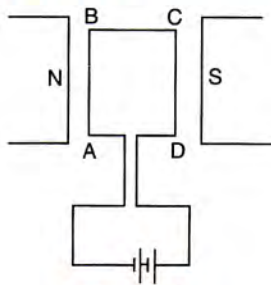

Fig. 10.26
1. A rectangular coil ABCD having a battery connected between its ends A and D is placed in between the pole pieces of a horseshoe magnet as shown in Fig. 10.26.
- (i) In Fig. 10.26, the current in coil is in direction DCBA.